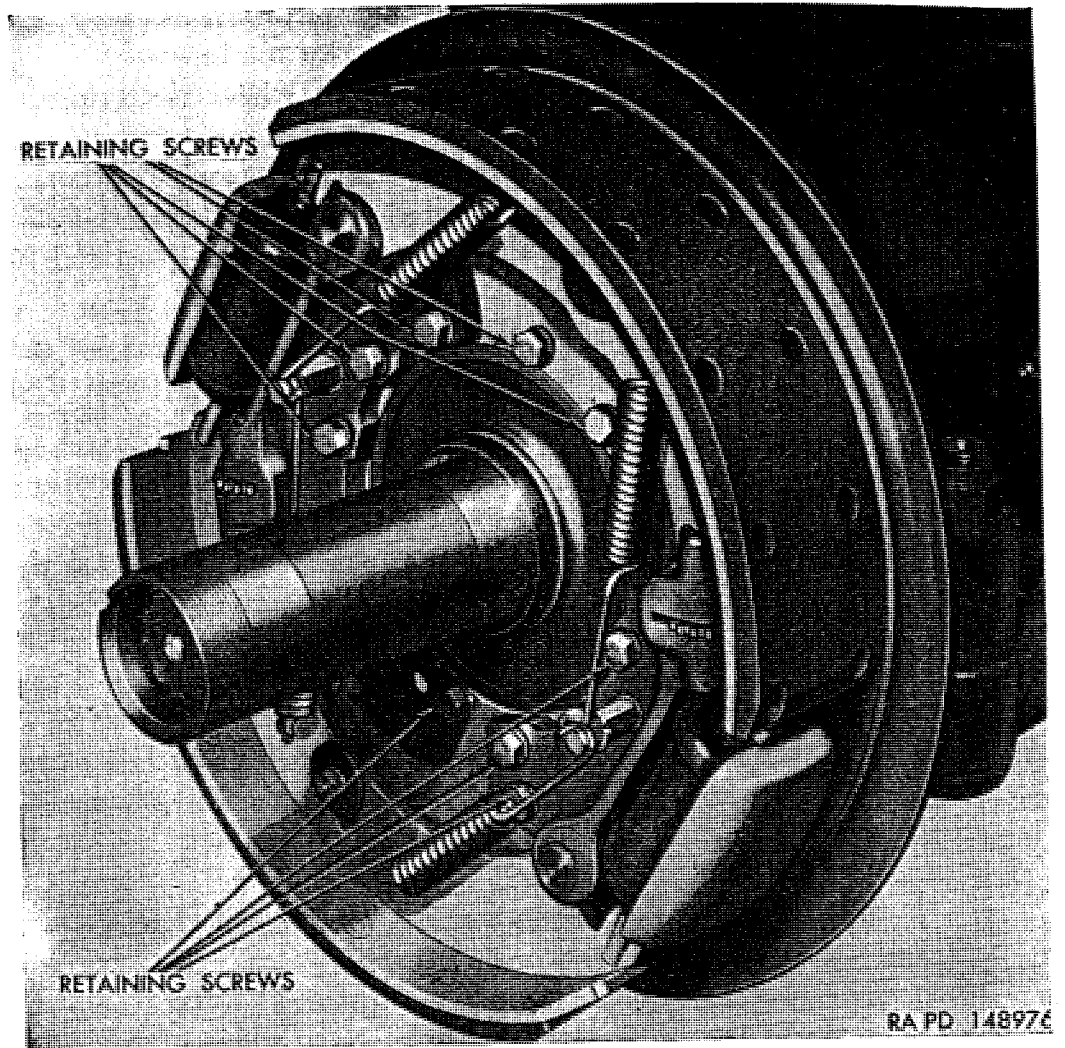
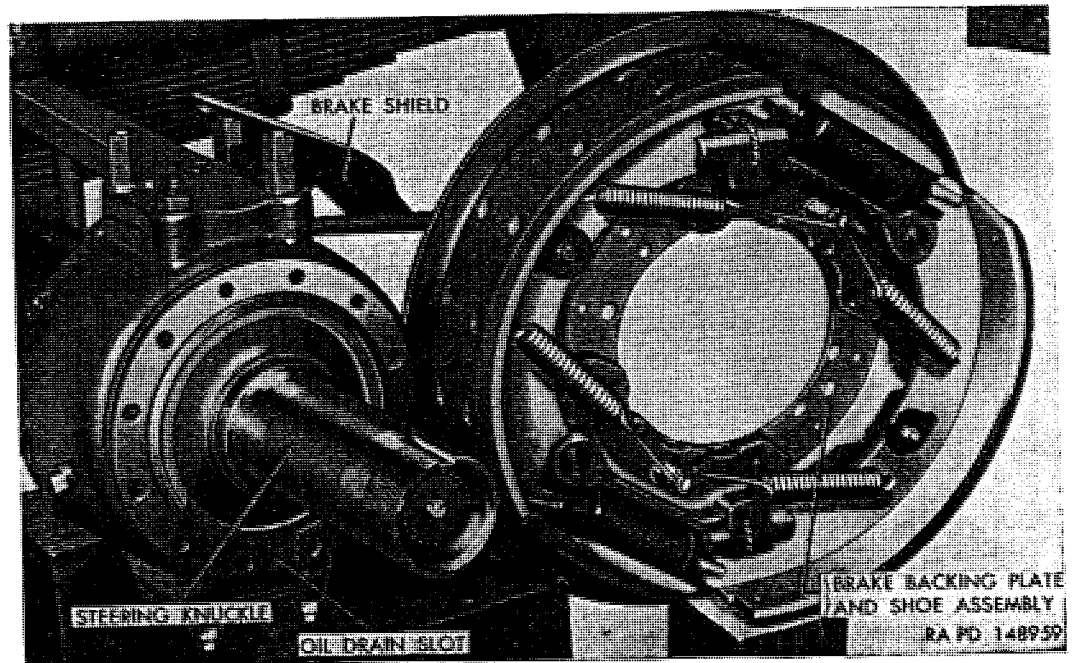

Figure 229. Brake backing plate and shoe assembly installed.
Figure 230. Brake backing plate and shoe assembly removed showing steering knuckle.
- (1) *Remove wheel.* Jack up axle; then remove wheel stud nuts, and remove tire and wheel assembly.
- (2) *Remove drive flange.* Remove eight stud nuts attaching drive flange to hub. Strike hub a sharp blow with a soft hammer to loosen tapered split dowels; then remove dowels from studs. Thread two $\frac{1}{2}$ -20 cap screws into the tapped holes in drive flange. Turn screws in evenly and alternately until flange is removed. Remove and discard flange to hub gasket.
- (3) *Remove hub and drum.* Remove wheel hub and brake drum assembly (par. 266*a*).
- (4) *Loosen brake hose shield.* Remove three cap screws and lockwashers attaching brake hose shield to top of steering knuckle support to permit utilizing full length of brake flexible hose when brake backing plate and shoe assembly is removed.
- (5) *Remove brake backing plate and shoe assembly.* Remove 12 retaining screws and lockwashers attaching brake backing plate (fig. 229) to steering knuckle. Observe installed position of backing plate so that it can be reinstalled in its original location. Mark backing plate. Remove backing plate and shoe assembly from steering knuckle and swing over end of steering knuckle (fig. 230).
Note. Milled oil drain slot (fig. 230) in steering knuckle flange must be at the bottom as shown.
- (3) *Install brake backing plate and shoe assembly.* Swing backing plate and shoe assembly over end of steering knuckle (fig. 230) and into place against steering knuckle, being sure plate is properly located as noted at time of removal. Aline bolt holes in plate with those in steering knuckle. Apply liquid-type gasket cement to female threads of steering knuckle and to threads of retaining bolts to insure a leakproof fit. Install four $\frac{3}{8}$ -16 x $1\frac{5}{16}$ bolts and $\frac{3}{8}$ -inch lockwashers through brake backing plate and steering knuckle flange. Install eight $\frac{3}{8}$ -16 x $1\frac{11}{16}$ bolts and $\frac{3}{8}$ -inch lockwashers through anchor block, backing plate, and steering knuckle flange. Tighten all 12 bolts to 27 to 30 pound-feet torque. Install brake flexible hose shield at top of steering knuckle arm studs, using three cap screws and lockwashers. Tighten cap screws.
- (4) *Install hub and drum.* Install wheel hub and brake drum assembly (par. 266g) and adjust hub bearings (par. 265b).
- (5) *Install drive flange.* Install drive flange over splined outer end of axle shaft, using a new gasket between flange and hub. Aline holes in flange with hub studs; then push flange in against hub. Install eight split tapered dowels and $\frac{1}{2}$ -20 safety nuts on studs and tighten nuts to 55 to 65 pound-feet torque. When nuts have been tightened, inspect for slight clearance (approx. $\frac{1}{16}$ in) between nut and flange. If no clearance exists, it indicates that dowels, tapered holes in flange, or studs are worn excessively and must be replaced with new parts.
- (6) *Install wheel.* Install wheel and tire on hub (par. 259c).